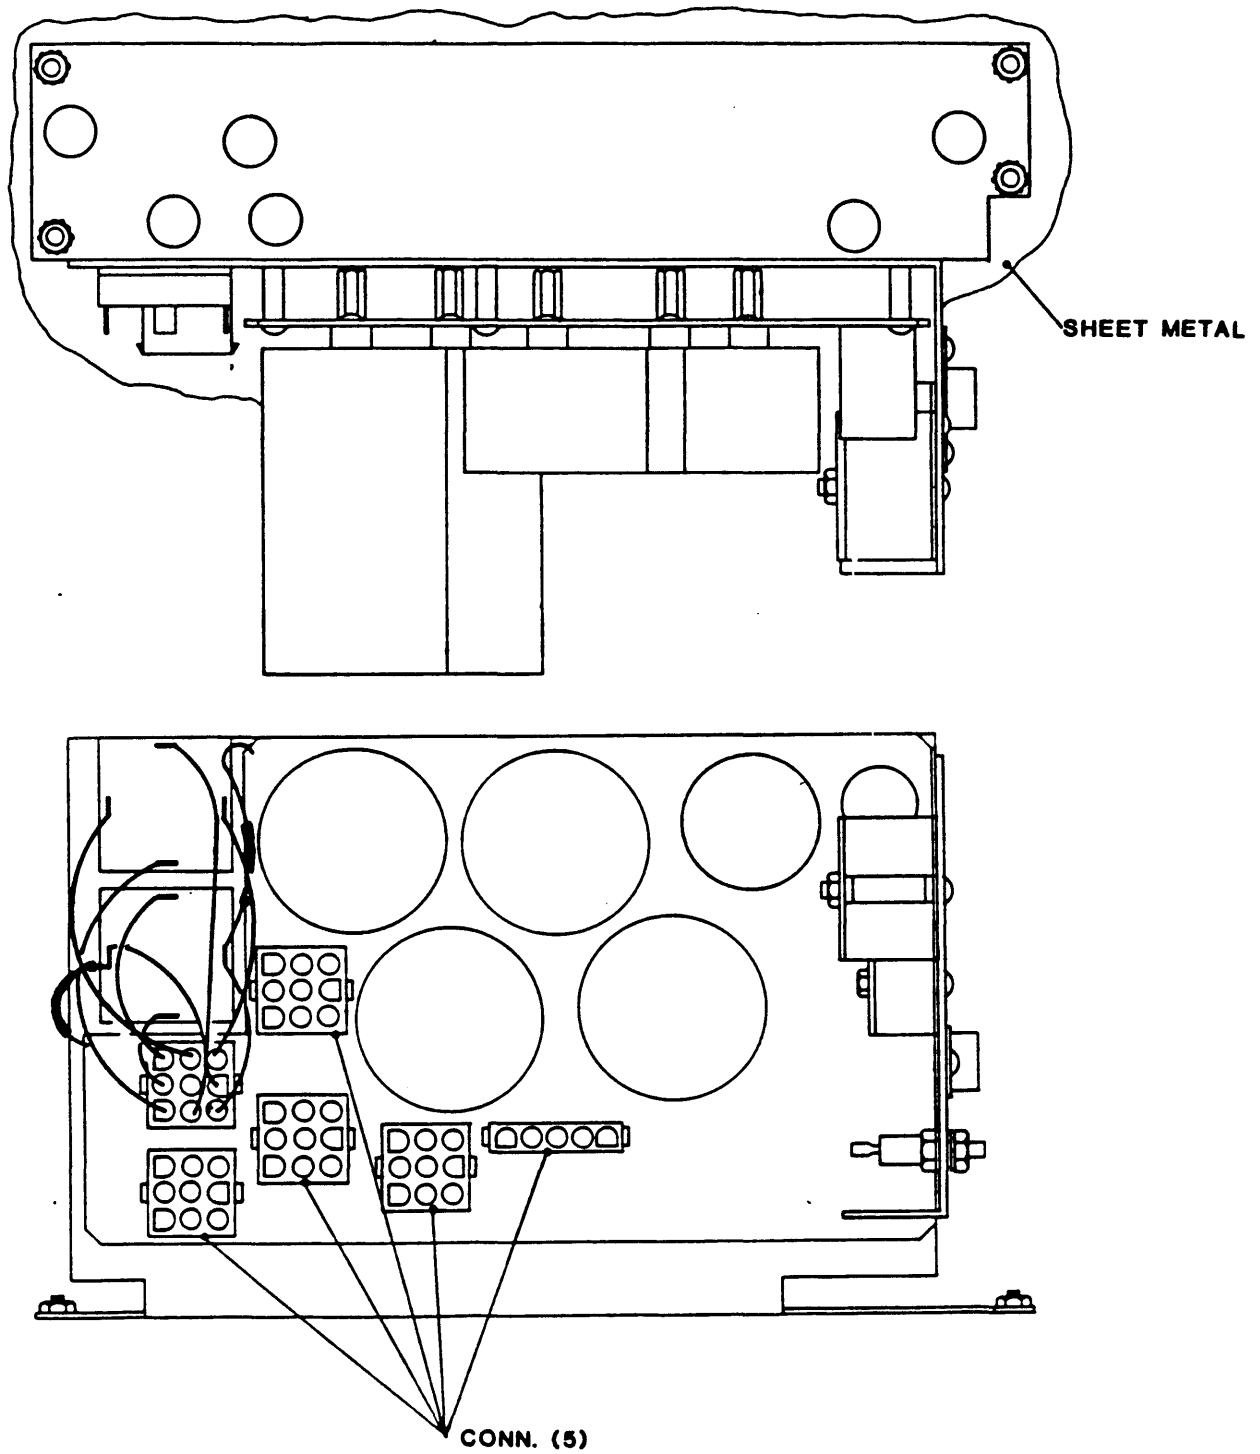

Figure 4-14 5 VDC Regulator Power Supply
#### 4.3.16 5 VDC REGULATOR POWER SUPPLY (Fig. 4-14)
1. Unplug the five connectors shown in Figure 4-14 from the Power Supply: Tag each connector for identification as you disconnect it, noting its mating receptacle.